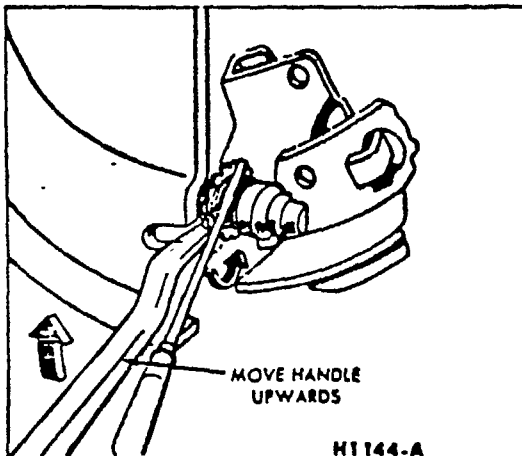

Fig. 12
3. Remove the retaining nuts and remove the brake drum. If the drum will not come off, insert a narrow screw driver through the brake adjusting hole in the backing plate, and disengage the adjusting lever from the adjusting screw. While thus holding the adjusting lever away from the adjusting screw, back off the adjusting screw with the brake adjusting tool (fig. 12.). Back off the adjustment only if the drum cannot be removed. Be very careful not to burr, chip or damage the notches in the adjusting screw; otherwise, the self adjusting mechanism will not function properly.